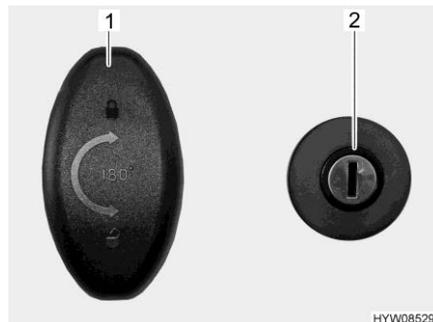

Fig. 51 Door lock (garage door)
- Opening:* ■ Put the key in the locking cylinder (Fig. 51,2) and turn in a clockwise direction. The central locking system is unlocked.
- Turn the lock handle (Fig. 51,1) through half a rotation in a clockwise direction and open the garage door.
- Turn lock handle (Fig. 51,1) one half turn in an anticlockwise direction.
- Insert the key in the locking cylinder (Fig. 51,2) and turn it in an anticlockwise direction. The central locking system is locked.